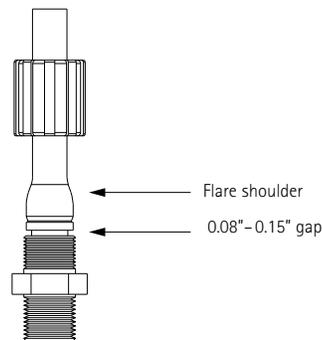

Figure 16
- Push the flared tubing end onto the Flaretek fitting body until the end of the fitting body contacts the flare shoulder of the tube (see Figure 16). The gap between the tube end and fitting shoulder should be 0.08" to 0.15".